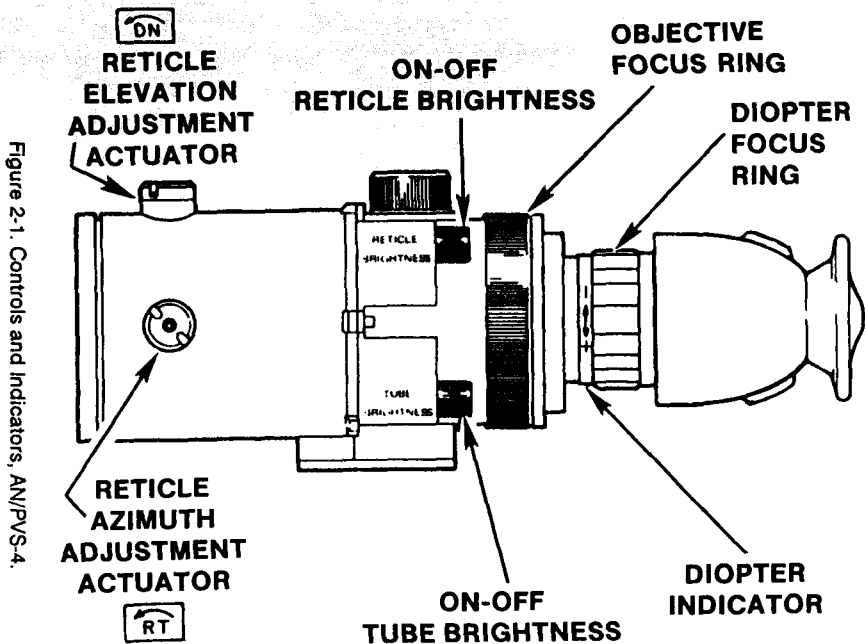

Figure 2-1. Controls and Indicators, AN/PVS-4.
Operator's controls and indicators on the sight are described in table 2-1 and figures 2-1 through 2-4.
(1) Turn the ON-OFF TUBE BRIGHTNESS switch and ON-OFF RETICLE BRIGHTNESS switch counterclockwise to OFF before installing batteries (fig. 2-1).